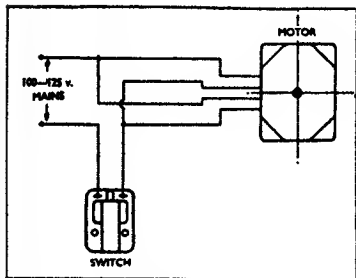

FIGURE 1.
1. Turntable does not rotate when On/Off/Reject Knob is turned to "ON"	(1) No current to motor	(a) Check that current has reached record changer motor. (b) Check that switch box assembly is functioning correctly.
(2) Motor defective	(c) Check all wiring and solder terminals to and from the switch box assembly (see Figure 1). (a) Remove the turntable and allow the motor to operate without load. If motor spindle is not rotating and voltage is reaching the motor, the motor is faulty. Repair or replace.